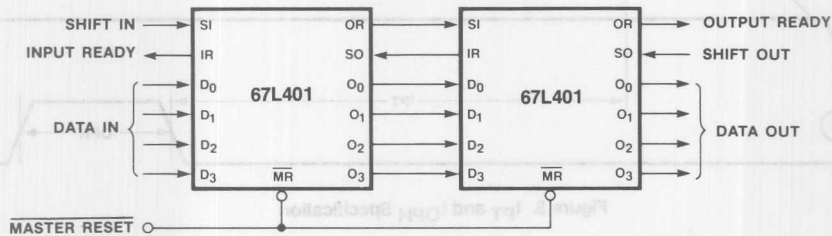

Figure 11. Cascading FIFOs to Form 128 x 4 FIFO with 67L401's
After power up the Master Reset is pulsed low (Fig. 11) to prepare the FIFO to accept data in the first location. When Input Ready (IR) is HIGH the location is ready to accept data from the  $D_x$  inputs. Data then present at the data inputs is entered into the first location when the Shift In (SI) is brought HIGH. A SI HIGH signal causes the IR to go LOW. Data remains at the first location until SI is brought LOW. When SI is brought LOW and the FIFO is not full, IR will go HIGH, indicating that more room is available. Simultaneously, data will propagate to the second location and continue shifting until it reaches the output stage or a full location. If the memory is full, IR will remain LOW.